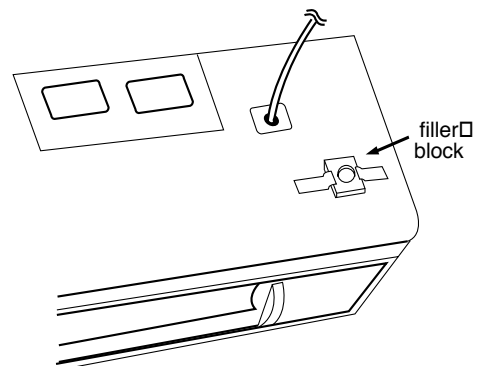

Figure 24
- Align filler blocks over the two openings in the top of the microwave oven cabinet and attach to cabinet with masking tape. See Figure 24.